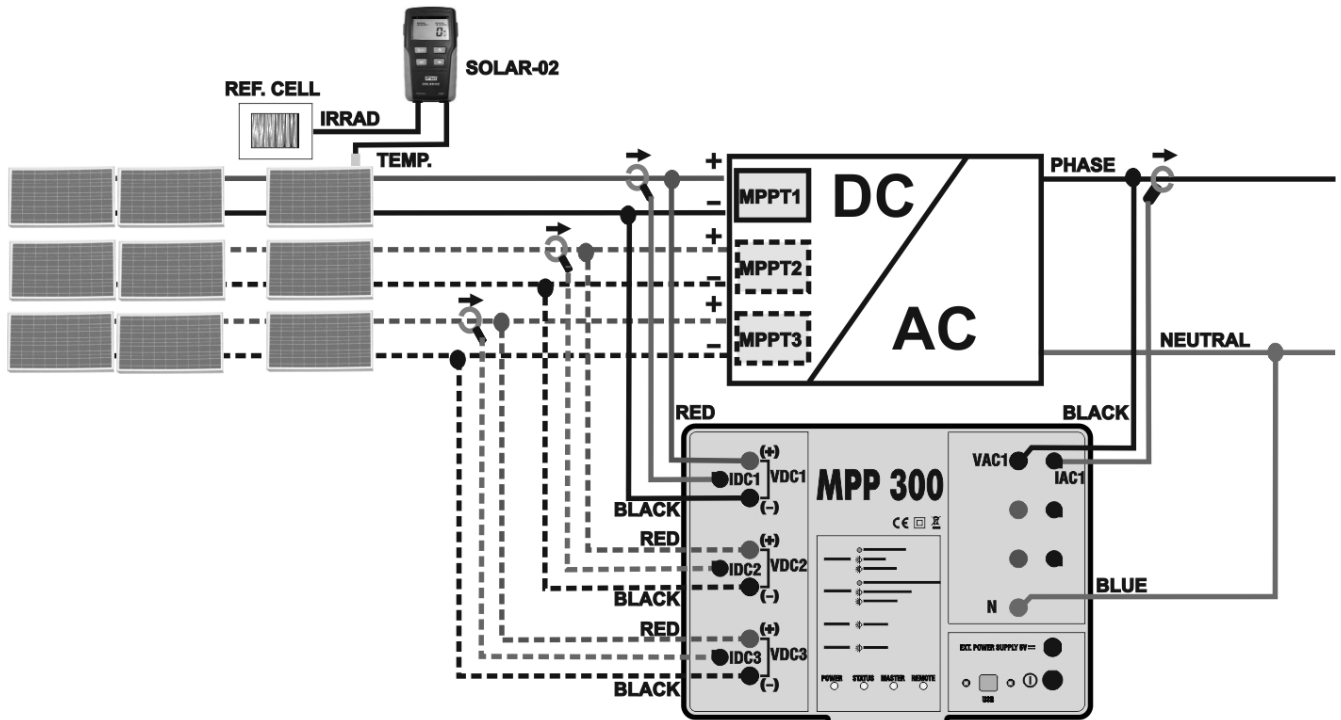
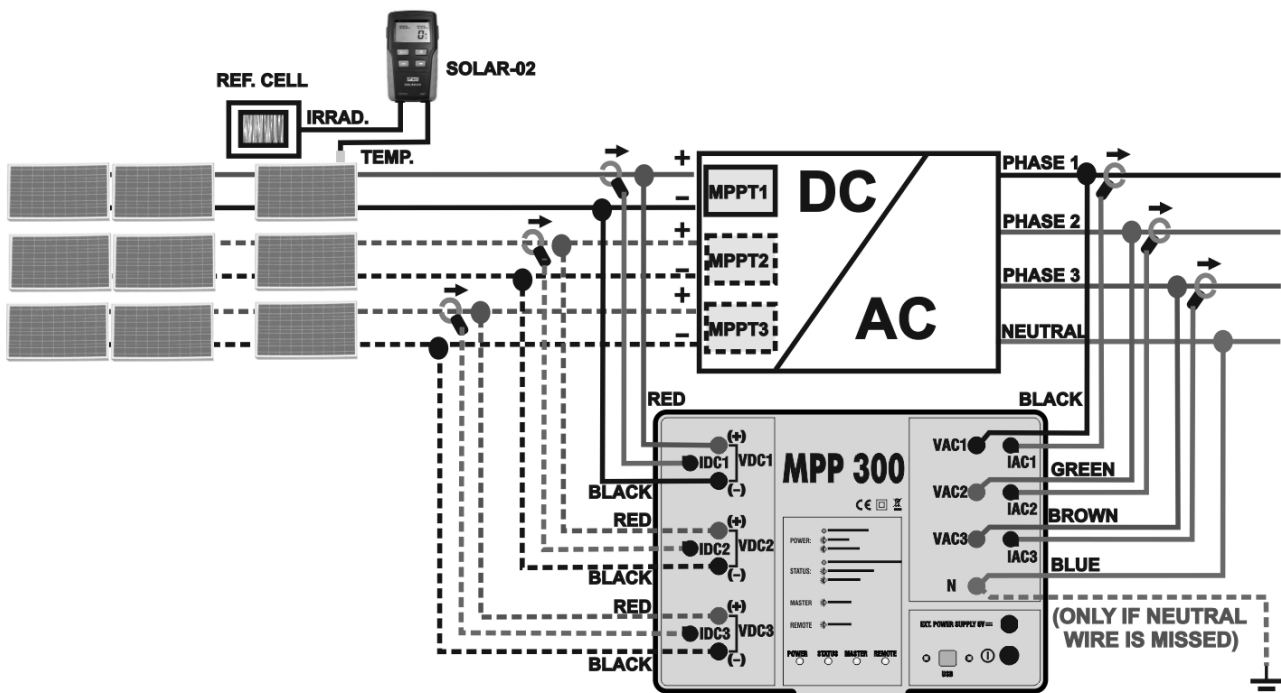

Fig. 4: Connection of MPP300 for testing a single-phase PV system
Fig. 5: Connection of MPP300 for testing a three-phase PV system
7. Connect the **VDC1(+)** and **VDC1(-)** inputs of the **MPP300** unit to the output terminals of the string, paying attention to the polarity and the colours indicated in Fig. 4 or Fig. 5.
10. Insert the DC current clamp onto the positive output conductor of the string, **respecting the direction of the arrow** found on the clamp itself as indicated in Fig. 4 or Fig. 5. Position the clamp toroid as far as possible from the inverter and from the negative output conductor of the string itself.
12. Connect the **VAC1** and **N** inputs of unit MPP300 to the Phase and Neutral conductors respectively, respecting the polarities and the colours indicated in in Fig. 4 or Fig. 5. In case of three-phase systems in which no Neutral conductor is available, connect input **N** to earth.
14. Connect the AC clamp to the Phase L1 conductor, respecting the direction of the arrow found on the clamp itself as indicated in Fig. 4 or Fig. 5. Position the clamp toroid as far as possible from the inverter and from the Neutral conductor. Connect the clamp output to the IAC1 input of MPP300.